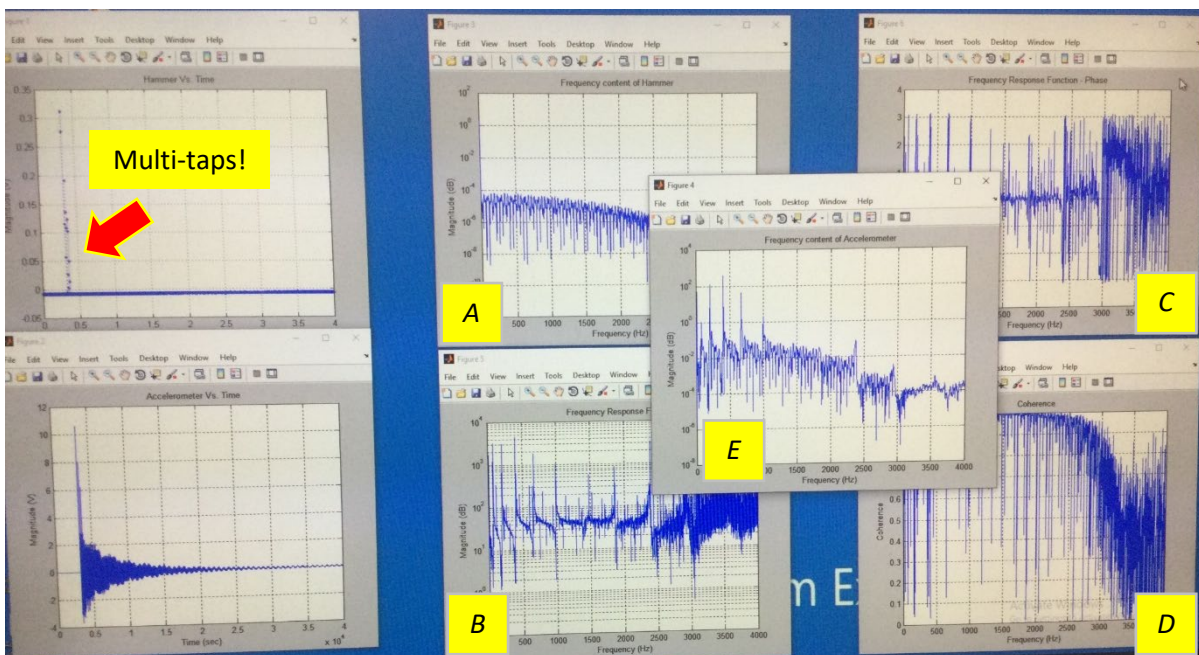

Fig. 13. An example of plotted *FOURIER* results from a multi-taps tapping (!)
9. Go to Matlab and RUN ② *MECH3200 EXP3 FOURIER_R2012.m*, and wait until two or five plots of *FOURIER* results are appeared, as shown in Figure 13.
10. **NOTE:** These plots A-E in Figure 13 are resulted from a multi-taps, thus, can't be used as reference for good-results.